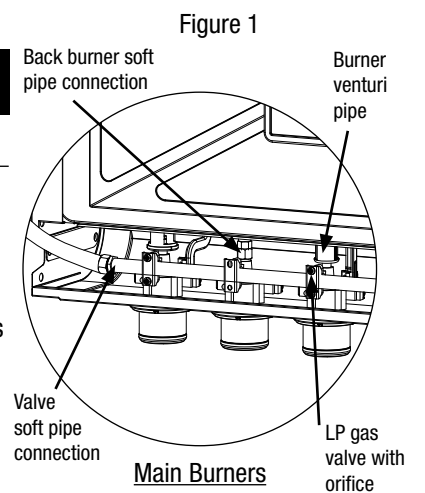

Figure 1
2. Please refer to diagram for proper installation (Figures 1 and 2).
5. Spoon leak check solution at all "X" locations (Figures 1, 2, 4a and 4b).